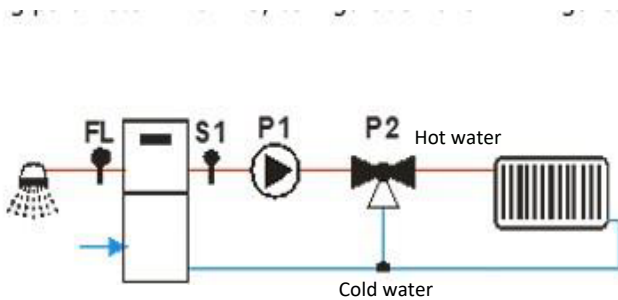

Fig. 1
**When parameter **P26** = 0, the configuration shown in Figures 1 and 2 is selected.**